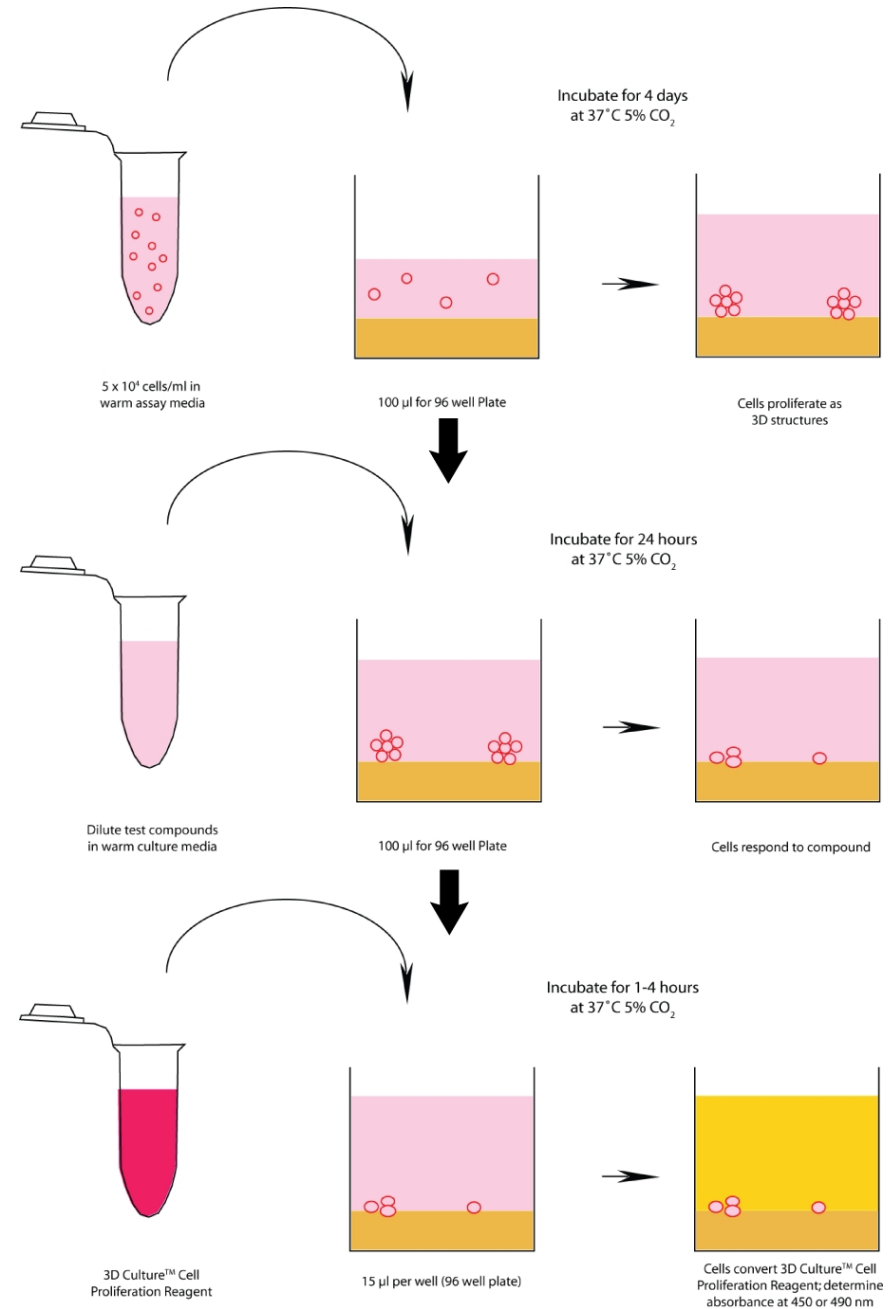

Figure 4. Illustration of protocol for assessment of toxicity in 3D culture.
- Culture cells at 37°C in CO2 incubator for 48 - 96 hours to promote the formation of 3D structures (Figure 4).